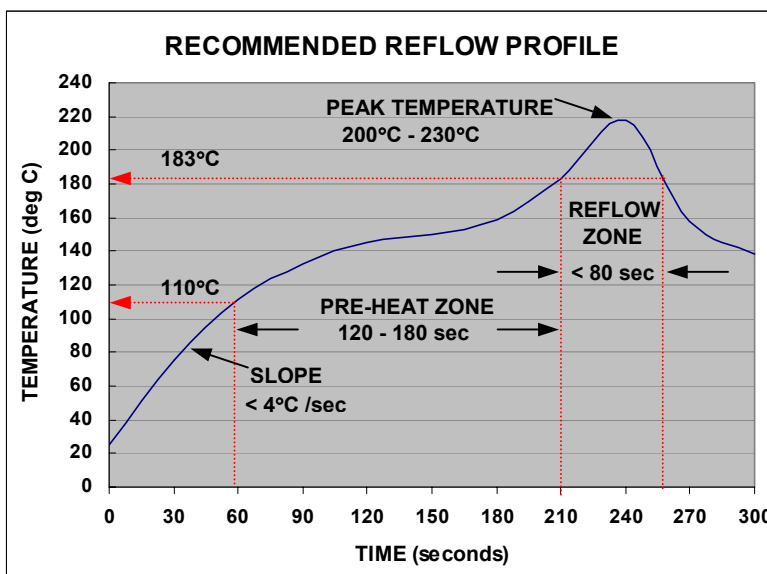

Figure 57. Recommended Reflow Profile.
1. Refer to the recommended Reflow Profile per Figure 57. Profile parameters exceeding the recommended maximums may result to permanent damage to the module.